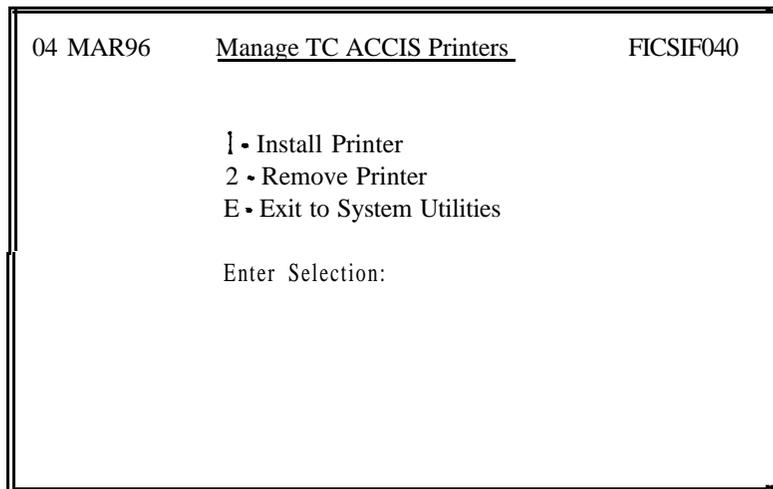

Figure 9-7. Manage TC ACCIS Printers Menu
4. At the **Manage TC ACCIS Printers** menu (see Figure 9-7), select **Install Printer**. The system will display the **Install Printer** screen (see Figure 9-S).
4. At the Manage TC ACCIS Printers Menu (see Figure 9-7), select **Remove Printer**. The system will display the **Remove Printer** screen (see Figure 9-9).